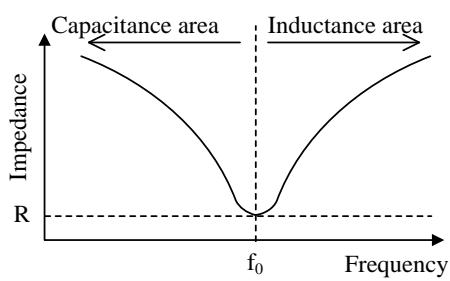

Figure 9-2. Impedance of Resonant Circuit
When the frequency,  $f$ , changes, the impedance of resonant circuit will change as shown in Figure 9-2.
When  $2\pi f L = 1/2\pi f C$ ,  $\dot{Z}$  of Equation (2) becomes the minimum value,  $R$  (see Figure 9-2). In the case,  $\omega$  is calculated by Equation (3).